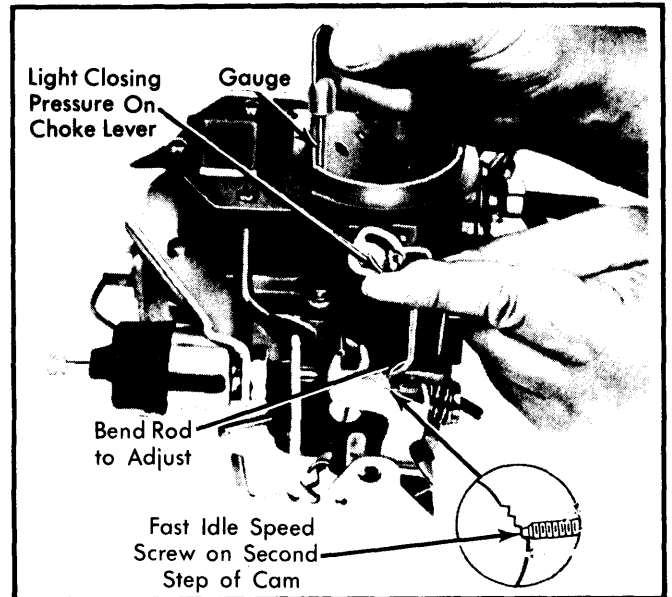

Fig. 6 Adjusting Fast Idle Cam Position
1) On American Motors models, loosen choke cover retaining screws and rotate cover 90° in the rich direction. On all models, place fast idle speed screw on second step of fast idle cam. See Fig. 6.